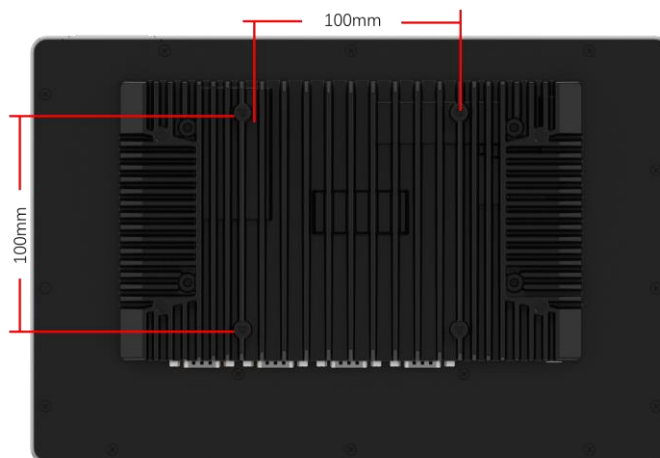

Figure 3-10: Arm Mounting Retention Screw Holes
Step 3: Align the retention screw holes on the mounting arm interface with those in the panel PC (**Figure 3-10**).